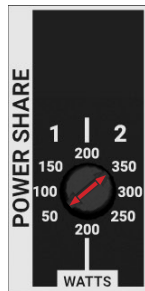

Fig. 6
- **Fig 6** - CLA402 Power Share selections arrow pointer is set to CH 1 50W (70V) / CH 2 350W (4Ω)